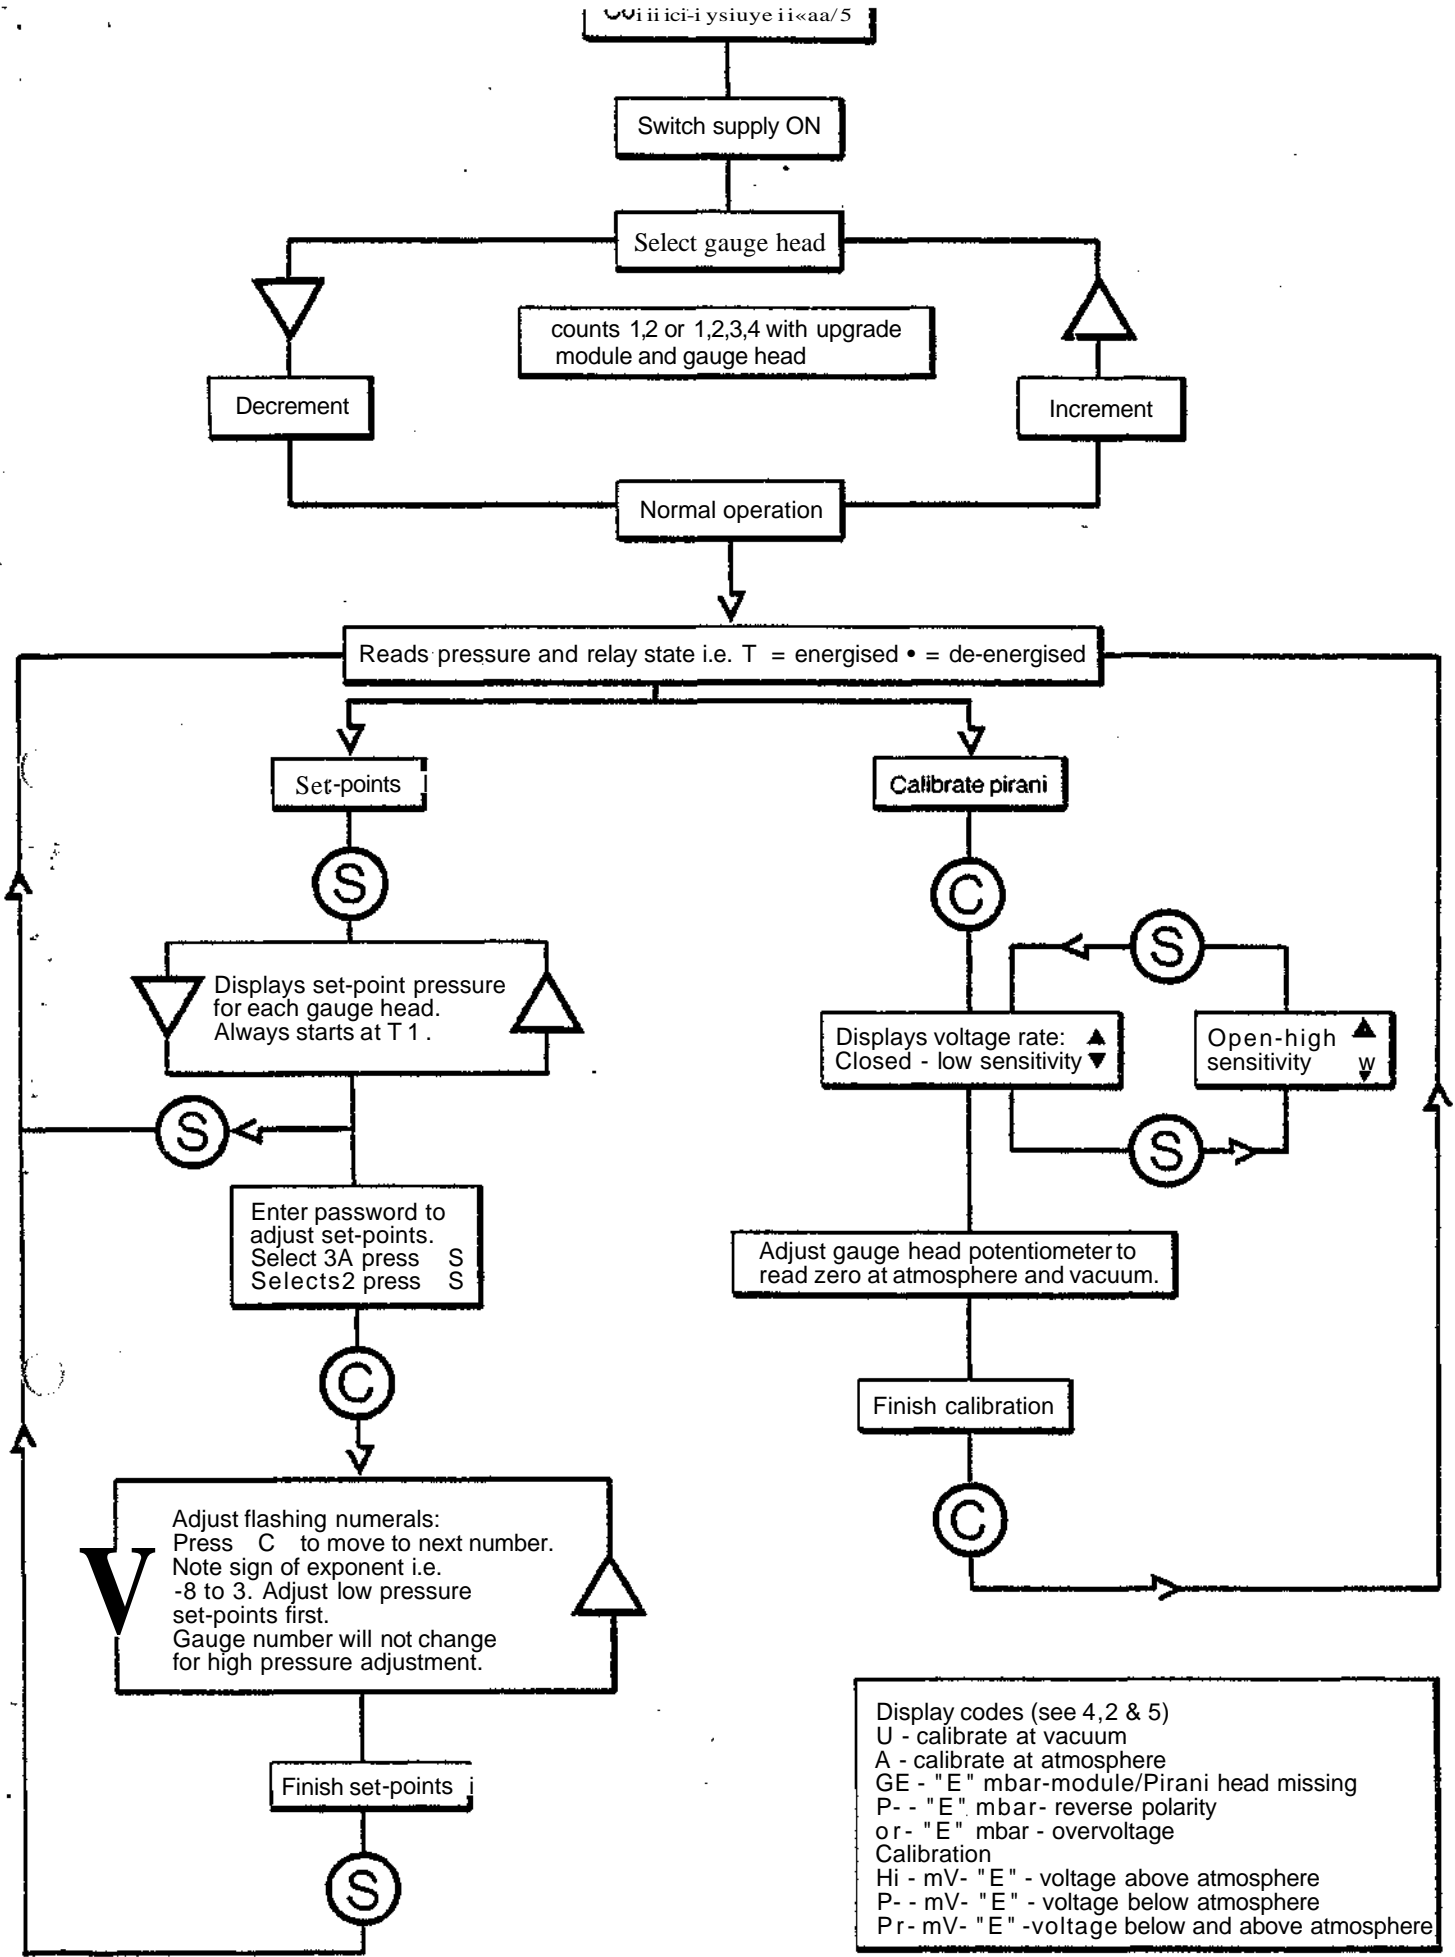

Figure 3 Controller 1101 - control diagram
#### 4.1 General (refer to figure 3 - control diagram)
While pressure is being displayed small arrows may be observed at the left hand side of the display area. These indicate small changes of pressure. A single flash of the inner arrows indicates a change of 4 millivolts in the gauge module output selected, and a single flash of the upper or lower arrows indicates a change of 8 millivolts. The 'low sensitivity' can be changed to 'high sensitivity' to give changes of 1 millivolt and 2 millivolts respectively, see figure 3. This facility is of use when detecting leaks in a vacuum system, either by noting the rate of increase of pressure when a chamber is valved off from pumps, or by noting the change in apparent pressure when a suitable search gas is applied to the outside of a leak. The sensitivity varies with pressure. With a PRM10 the maximum number of millivolts for a displayed unit of pressure is in the region of 1 mbar, where there are approximately 40 millivolts change between a reading of 1.0 mbar and a reading of 1.1 mbar.
The relay set points are indicated by the vertical numbers 1 to 4 on the front panel. The low pressure set point is indicated by V next to the relay selected (relay energised). The gauge head selected being indicated on the display right hand side. Relays de-energised are shown by A alongside the relay number see figure 3. The setting up procedure for the set-points is given in section 5.3. When pressure falls below the 'low' pressure set-point the relay energises (external contact closes). When the pressures reaches the 'high' set-point the relay de-energises (external contact opens). If the 'high' set-point is set to a value below that of the 'low' set-point, the relay operates on the high set-point only i.e. energises below 'high' set-point and de-energises at the high set-point.
### 5.1 Gauge head calibration(refer to figure 3)
## 5.2 Viewing and adjusting the pressure set-points (refer to figure 3)
To view the set-points press (S) as in figure 3. The display will show the setting for relay number 1. The flashing T shows the low pressure setting and the flashing A shows the high pressure setting. When set-point (|) is first selected the display will always be that set for relay number 1. To view the other set-points simply press Zi to increment and \ / to decrement. To return to normal operation press (S) again.